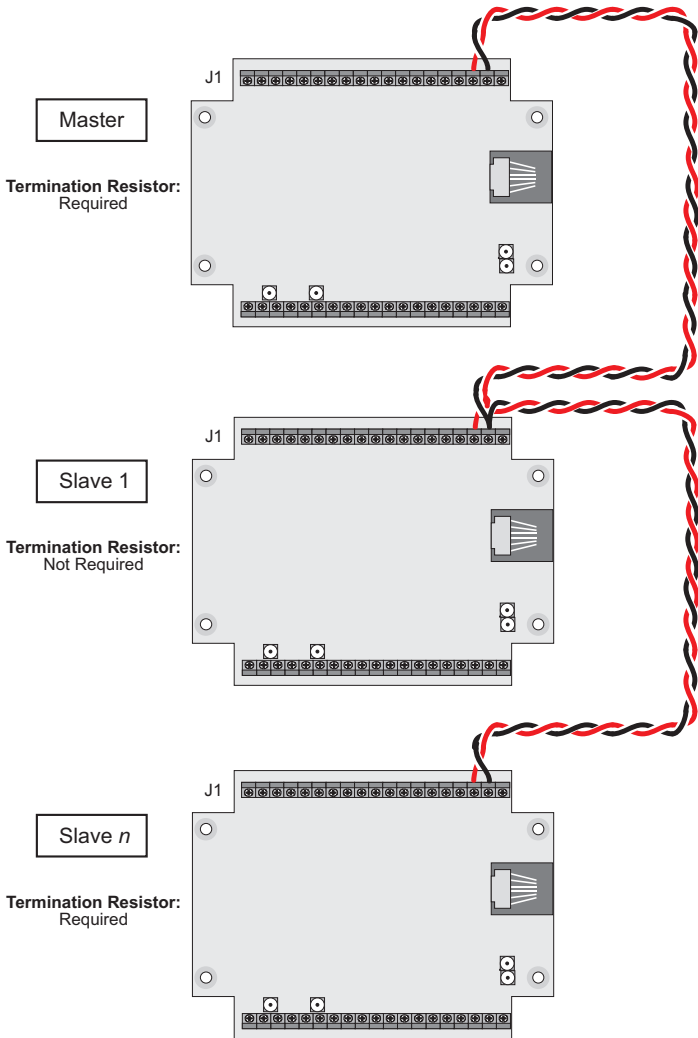
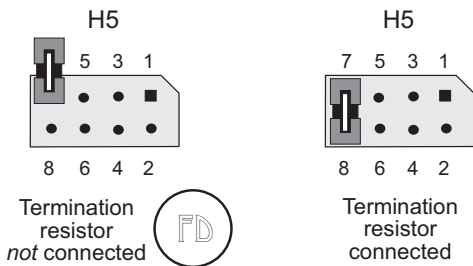

Figure 4-4. RS-485 Multidrop Network
Figure 4-5. PK2500 Jumper Settings on Header H5 for Termination Resistor
The resulting multidrop network (shown in Figure 4-4) can span up to a kilometer, facilitating the design of a robust distributive control system.
2. Connect RS-485+ to RS-485+ and RS-485- to RS-485- on all networked controllers, using single twisted-pair wires. Use Figure 4-4 for reference.
An external termination resistor is not required. A jumper on header H5 determines whether the onboard termination resistor is connected to the network. The termination resistor is needed only at the physical ends of the network, as shown in Figure 4-4. The resistor is disconnected by removing the jumper. Figure 4-5 summarizes the jumper configuration.